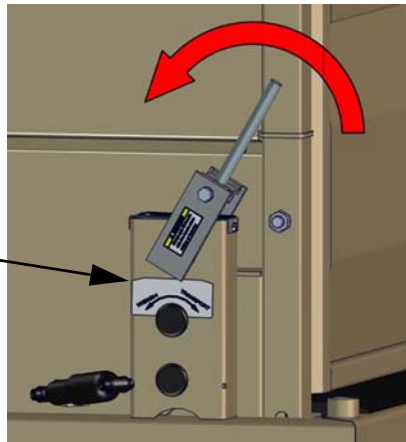

Figure 3-4. Scale Lift
15. Using both hands, raise the platform (rotate cam handle in direction indicated by decal) to enable the scale (see Figure 3-4).